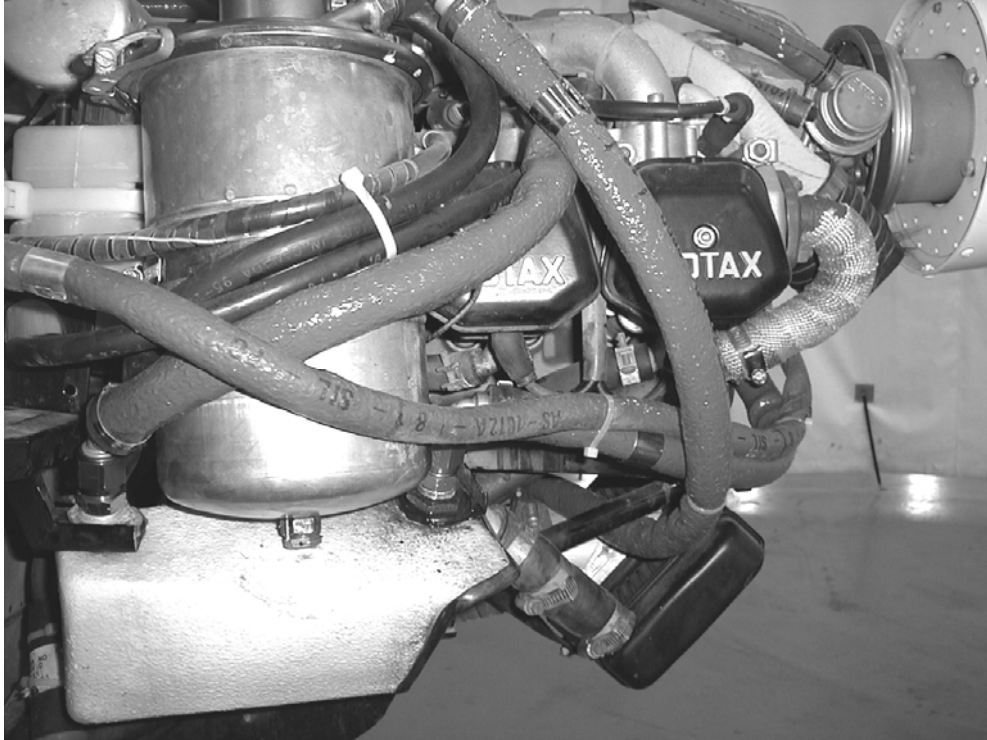

Figure 2: Routing and securing oil lines (RH, looking inboard).
- 10.8** Route and secure oil lines as shown in Figures 2 and 3 using supplied tie-down straps, MS3367-5-9. ORIENT FITTINGS AND HOSES TO AVOID CONTACT WITH RADIATOR, ENGINE MOUNT AND CABIN HEATER SHROUD.